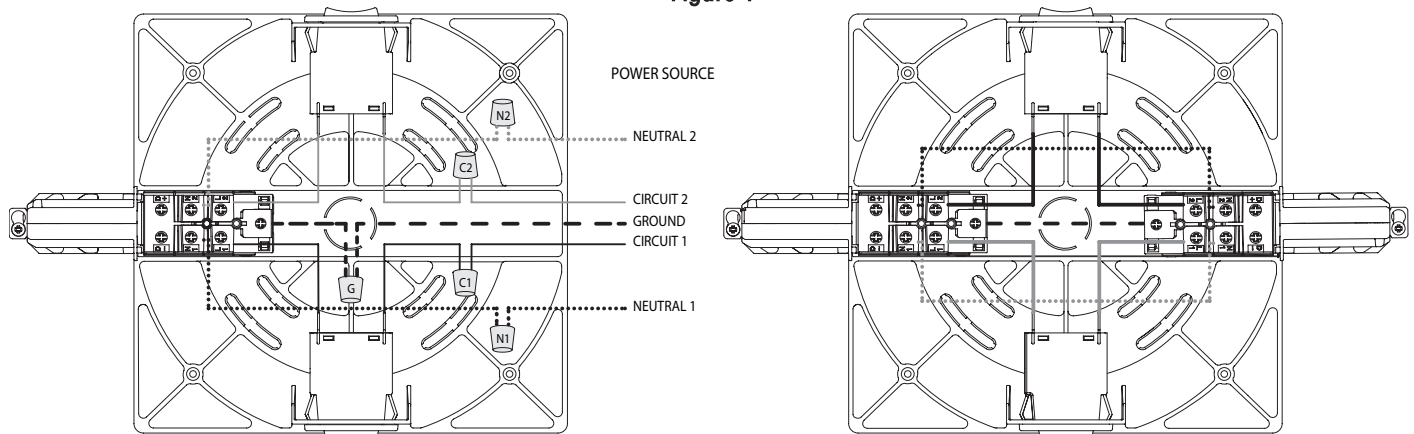
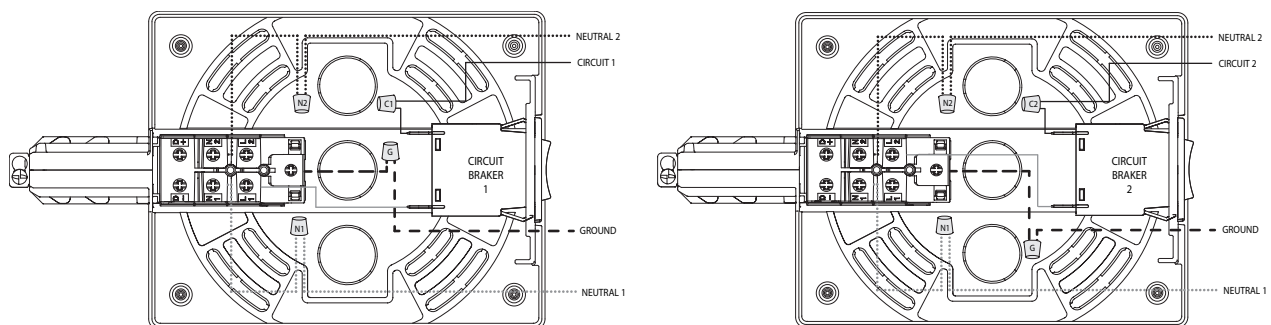

Figure 2
Figure 3
2. Using your Wire Strippers, wire the circuit for AST-9001-CL-* / AST-9002-CL-* / AST-9010-CL-* see **Figure 2** and for AST-9001-CL-S-* / AST-9002-CL-S-* see **Figure 3**